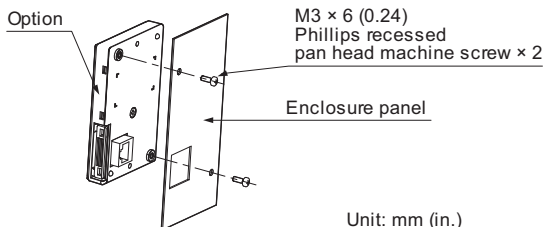

Figure 10 External/Face-mount Installation
1. Cut an opening in the enclosure panel for the option according to Figure 10.
2. Position the option so the LED display faces outwards, and mount it to the enclosure panel as shown in Figure 10.